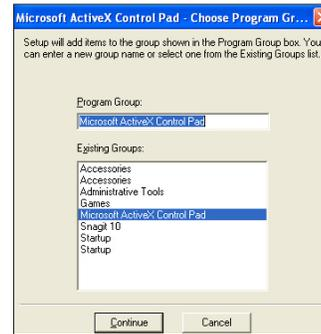

Figure 10D—Program Group Window
5. Click *Continue* on the Program Group window to continue the installation (Figure 10D).